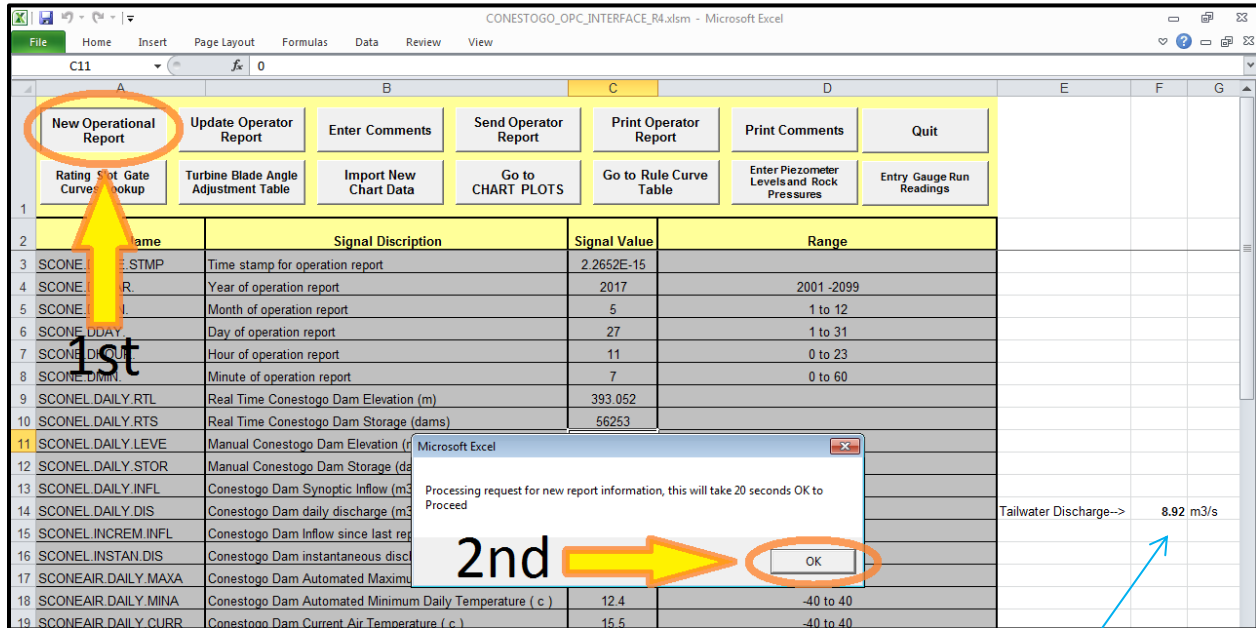
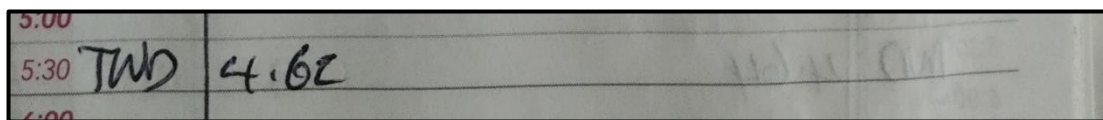

Fig 4
Fig 3
- A Microsoft Excel window will appear giving you three options. Select the “**Update**” button to update to current report status (*Fig 3*).
- Once the workbook is open, update data by selecting the **“New Operational Report”** button on top left side of spreadsheet, and then select **“OK”** on the pop-up window to update (Fig 4).
- Record the **“Tailwater Discharge”** value into the written daily logbook beside **“TWD”** (Fig 4), found on **Line 14** of the spreadsheet to the right of the report’s main columns (Fig 3).